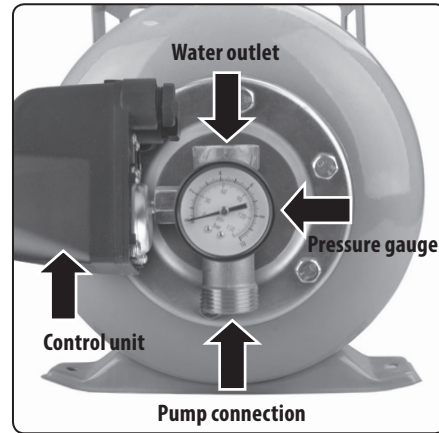

Fig. 3
- 1) Screw the pressure control unit, with the cable holes pointing upwards, on to the brass connection fitting with 5 outlets, i.e. above the pressure gauge, then the pressure gauge as shown in fig. 3 and screw the brass connection fitting on to the tread of the water tank.